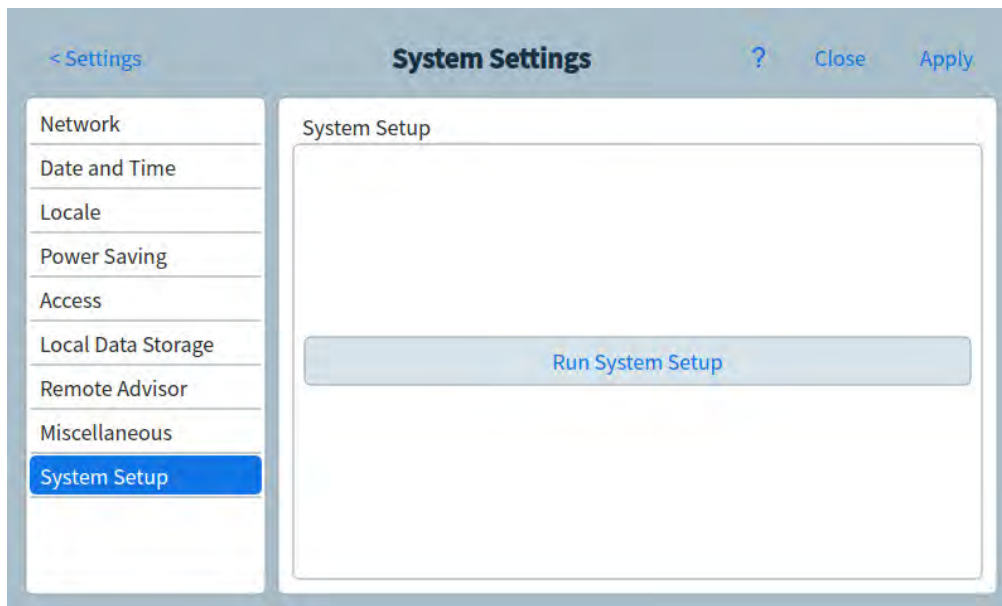

Figure 53. System Setup page
- 1 From the System Settings page, select the **System Setup** page selection button. The System Setup page appears. See **Figure 53**.